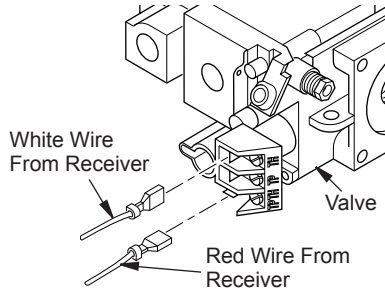

Figure 29 - Connecting Wires
6. Connect wires as shown in Figure 29.